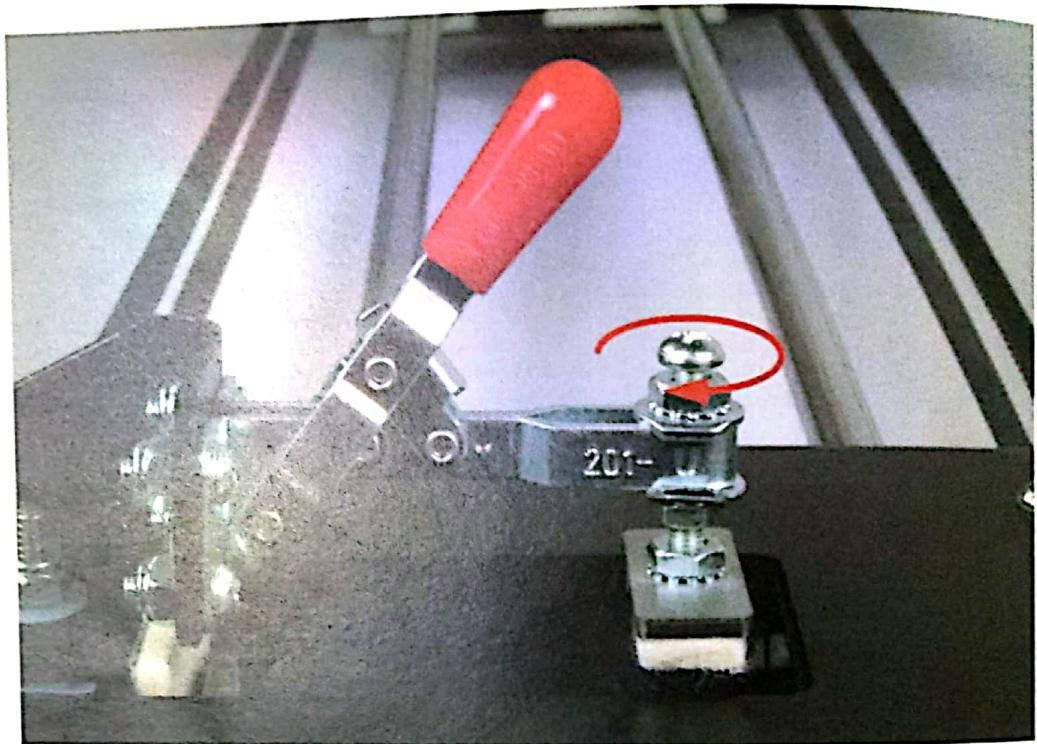

Figure 31. Breaking set screw adjustment for loaded motor measurements.
16. Set the gain  $K_p$  value back to 1 and adjust the braking set screw (see Figure 31) until the motor is engaged in full breaking and its speed is approximately  $300 \text{ rpm} \pm 50$ . Enter the loaded motor speed  $\omega_{LOAD}$  in Table 19 below.